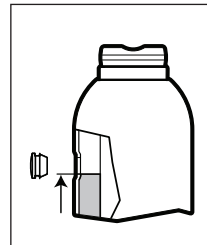
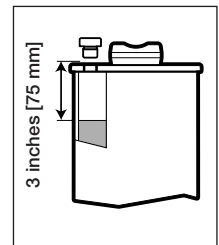

Fig. 6 - Oil Level, all models except GBJ-100
Fig. 7 - Oil Level, Model GBJ-100 only
- All models except GBJ-100: Fill until oil level is even with bottom edge of the oil fill hole. See Fig. 6.
- Model GBJ-100 only: Fill until oil level is about 3 inches [75 mm] below the oil fill hole. See Fig. 7.
**CAUTION:** DO NOT OVERFILL! With ram fully retracted and jack in upright position, oil level should not be higher than shown in Fig. 6 or Fig. 7 (as applicable for your jack model).